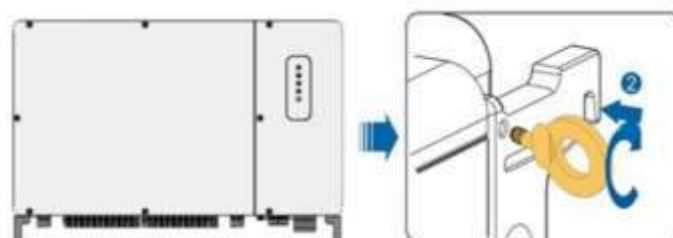

Fig. 4-7 Thread lifting rings
- 1) Anchor two M10 thread lifting rings to the hangers of the inverter (Fig. 4-7).
- 4) Remove the lifting rings and reassemble the sealing screws released before (Fig. 4-7).